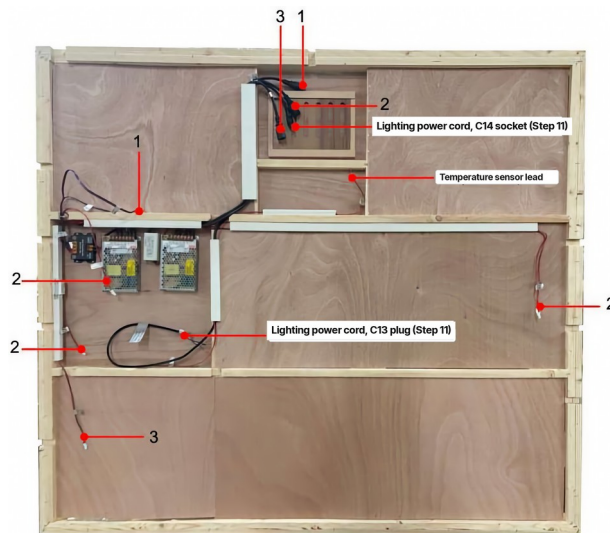

Figure 14 (repeated). Top of the Ceiling Panel with the Dust Cover off, for the Function Test.
Figure 14. Top of the Ceiling Panel with the Dust Cover off. Callouts: 1 ambient RGB light connectors, 2 warm white tile light connectors, 3 fan power connector. The lighting power cord joins at its C13/C14 connector in this step. The temperature sensor lead is connected by the electrician at Step 16.
Three types of connector come up from the top of the wall panels: the ambient RGB light connectors (1), the warm white tile light connectors (2), and the fan power connector (3), shown in Figure 14.
- Plug the lighting power cord (C13 plug) into its C14 socket beside the control box opening, shown in Figure 14, and push it in until it seats. This is a standard appliance connector and carries no power until the electrician energizes the circuit at Step 18.
- Mount the HUUM control box (the UKU main module) at its location on top of the Ceiling Panel with four mounting screws supplied by the electrician and a Phillips screwdriver. HUUM does not include the screws (page 8 of the HUUM UKU manual, Main module). Bring the dedicated 240 V supply in at the top of the Back Panel (B) to the control box. Page 8 of the HUUM UKU manual (Main module) covers its mounting, the cable glands, and the power cable. The supply cable, the breaker, and the wire size follow page 7 and Table 2 on page 8 of the HUUM DROP manual (Connecting the heater to the power supply). The DROP 6 row gives 25 A at 240 V, a 30 A breaker, and 10 AWG minimum.
- Connect the supply, the heater cable, the control panel cable, and the temperature sensor lead on the Ceiling Panel (Figure 14) to the control box. The terminals are shown in Figure 1 on page 5 of the HUUM UKU manual (Electrical connections of the heater). The supply lands on the mains terminals, the heater on V and U, the control panel on terminals 1 to 4, and the temperature sensor on T1 and T2. Figure 18 shows the same connections as built in the Nova, for reference only. Crimp every cable end. Crimping is mandatory per HUUM (page 7 of the HUUM DROP manual, Connecting the heater to the power supply, and page 6 of the HUUM UKU manual, Installing UKU electrical control device).
This step shares Figure 14 and Figure 18; Figure 14 is repeated below.